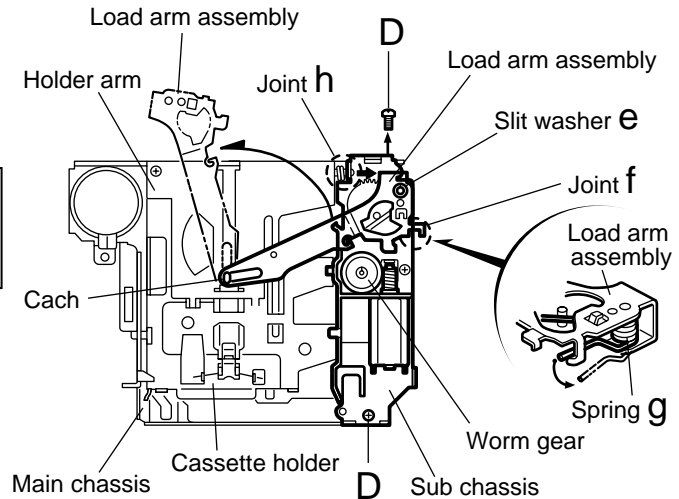

Fig.4
**■ Removing the load arm assembly (See Fig.4)**
**■ Removing the sub chassis (See Fig.4)**
(See Fig.4 and 6)